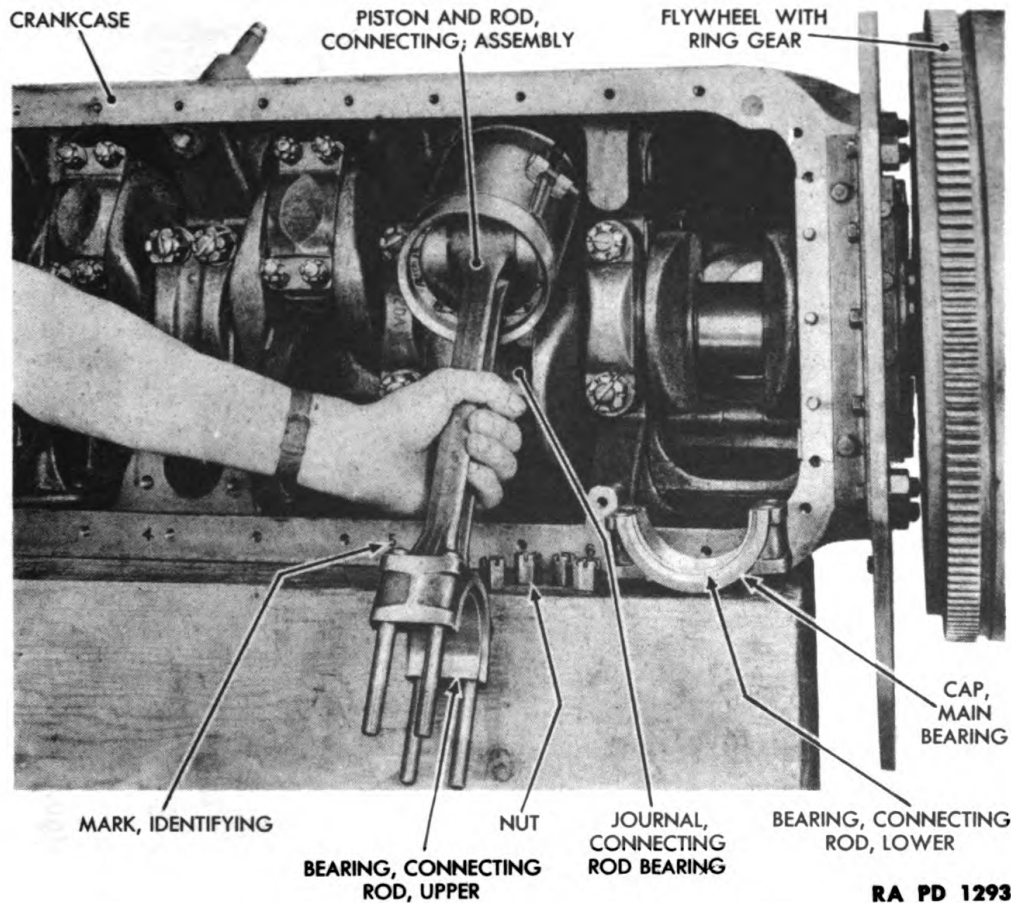

Figure 168—Piston and Connecting Rod Assembly Installation
(4) INSTALL NO. 1 PISTON AND CONNECTING ROD ASSEMBLY (fig. 168).